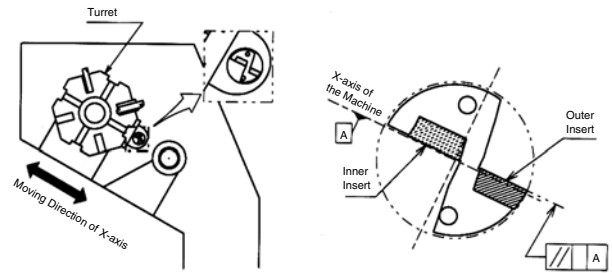
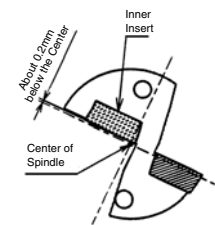

Fig. 1 Installation to the Turning Lathe
Fig. 5 Front View of the Drill
- ① The top face of the outer insert should be parallel to the X-axis to allow for offset cutting.
- ② It is recommended to set the outer insert as shown in Fig.1 with the outer insert facing the operator. (It is also possible to use it by setting 180° reverse position.)
When installing inner insert as shown in Fig. 1, it will be set around 0.2mm below the Center of Spindle. (Fig. 5)